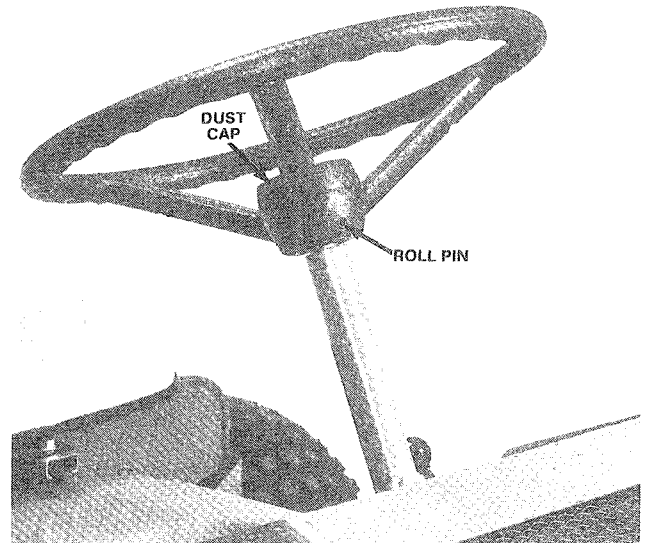

Figure 2
2. Place the steering wheel in the normal position and secure with the roll pin. Support the opposite side of the shaft while driving in the pin to avoid damage to the shaft bushings. Install the dust cap (Fig. 2).